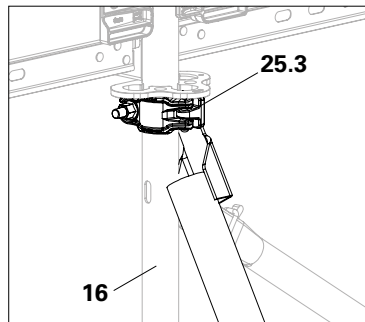

Fig. D7.04a
2. Fit the top coupling (25.3) onto the outer leg of the Easy Frame (16) while positioned on the first scaffold level. Push the coupling as close as possible to the rosette and tighten. (Fig. D7.04a)